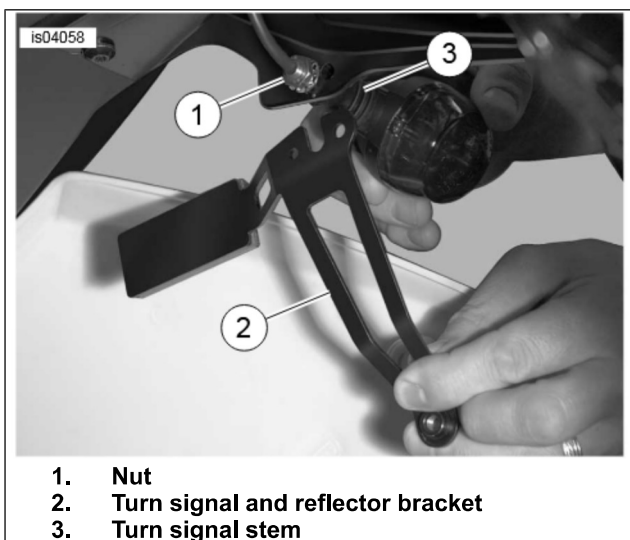

Figure 4. Turn Signal and Reflector Bracket
4. See Figure 4. Loosen nut (1) on back of turn signal and reflector bracket (2) enough to slide the bracket downward and off the turn signal stem (3) and tail section. Discard bracket but leave turn signal assembly on motorcycle.